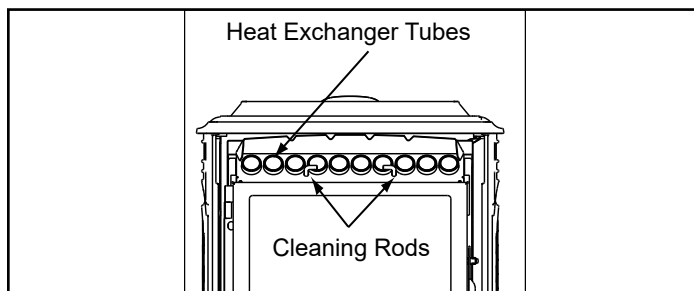

Figure 17.1
- Locate the 2 exposed rods directly underneath the heat exchanger tubes (**Figure 17.1**).